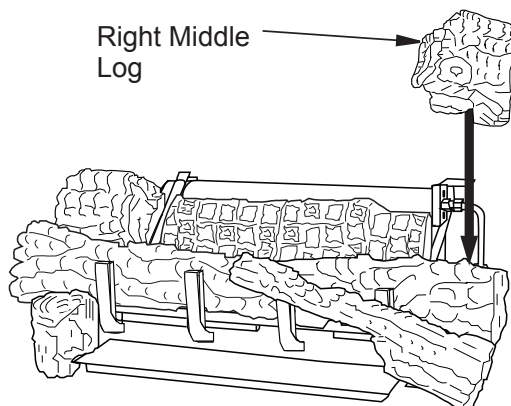

Figure 34 - Installing Right Middle Log
7. The right middle log has a groove on the bottom to sit on the chassis and has to sit on the tab on the back of the right front. The right middle log should have a recess area that fits around the ramp log as shown in **Figure 34**.